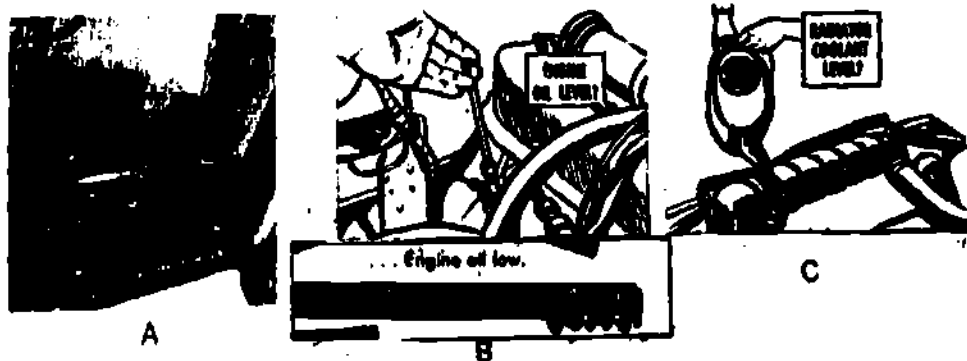

Fig 2-16. Fuel, oil, water levels.
d. Fuel, oil, water. This particular check is made to insure that each of the items is at the safe operating level. Fuel should be at its full or maximum level (A, fig 2-16). The proper level for engine oil would be exactly on the full mark, (B, fig 2-16). This is an ideal condition and should be met whenever possible. However, most dipsticks (used to measure amount of engine oil) will have at least a line indicating "add oil" and "full." For a true reading, the vehicle should be allowed to sit with the engine off for 2 or 3 minutes, which allows all the oil to drain from the engine to the oil pan. Coolant level should be checked and brought to the proper level (C, fig 2-16).